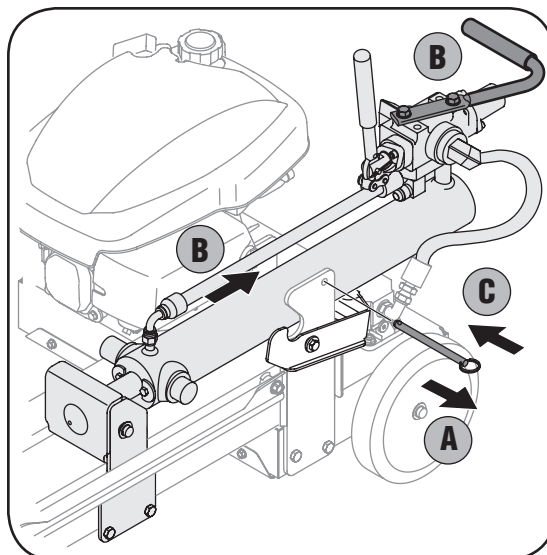

Figure 3-4
9. a. Pull locking pin from cylinder base. See Figure 3-4.